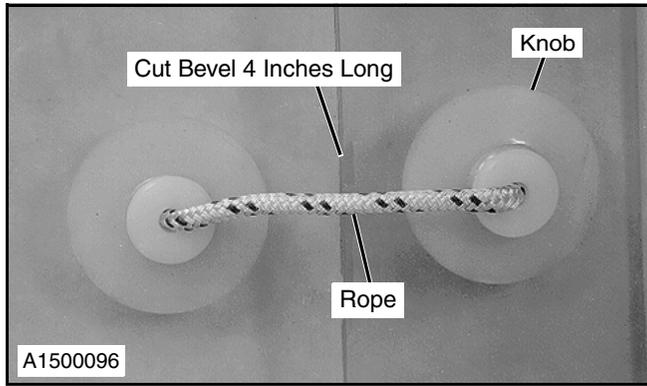

Figure 40
14. Cut a slight bevel, about four inches long, on the edge of the Puralon panel where the nylon rope contacts the Puralon. (Figure 40 shows a complete assembly.)